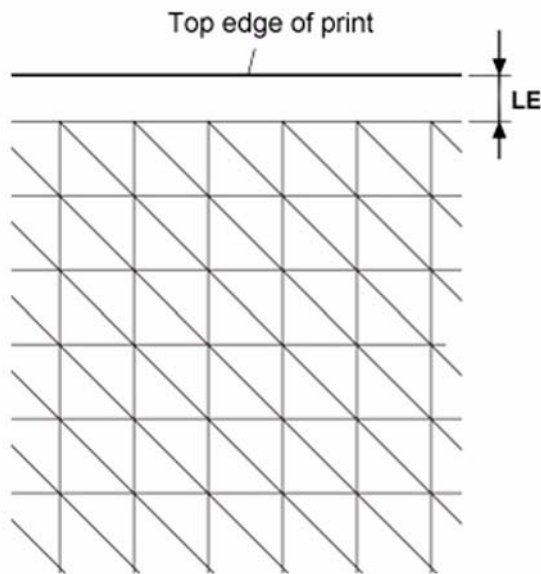

Figure 1 Where to make the LE measurement
11. (Figure 1) Measure the Lead Edge (LE) in the center area of the 2nd, 3rd, and 4th prints.